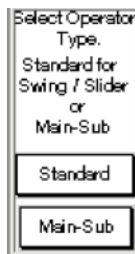
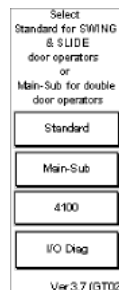

Fig. 3
Fig. 4
3. For GT-01/02 software prior to Ver. 3, the screen in Fig. 3 will display. Choose either 'Standard' or 'Main/Sub' operator. For Ver. 3.7 of the GT-01/02 software, the screen in
Fig. 4 will display. For Main/Sub, select 'Lead Door' or 'Follow Door' on the next screen (Fig. 5), then skip to step 5. NOTE: Check PLC model number for appropriate 'Main-Sub' selection.
Selecting the 'I/O Diag' button from main screen (Fig. 4), will bring you to the screen in Fig. 9. 'Outputs' will display the screen in Fig. 11.
NOTE: When using the newer GT-01/02 Software with an older PLC, or vice-versa, the initial startup of the GT-01/02 may be longer than usual and/or may display an error on the screen, it will then clear and go to the initial screen shown in either Fig. 3 or Fig. 4